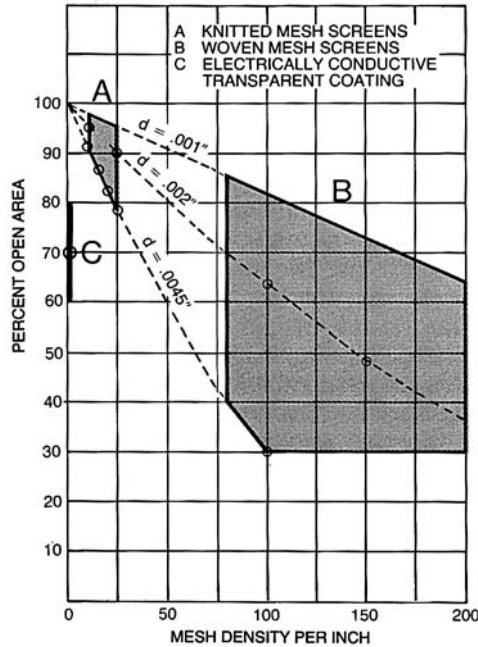

Figure 3-4. Percent Open Area of Mesh Screen.
Figure 3-4 provides a ready reference for the optical Transmission (percent open area) of the three types of shielding materials for windows covering the most commonly used knitted mesh screens, woven mesh screens and transparent conductive coatings. The commonly used materials are annotated by circle (O) on the figure.
Section A of Figure 3-4 encompasses the useful range of knitted materials. Wire diameters from 0.001 inch to 0.0045 inch bound the upper and lower limits while 10 to 25 CPI provide the limits of mesh densities. These boundaries provide the highest optical open area ranging from about 80% to greater than 95%. Bonding of wire crossovers has been assumed in all performance data shown in this guideline.
Section B of Figure 3-4 depicts the useful range of woven screen materials ranging from wire diameters of 0.001 inch to 0.0045 inch and mesh densities
Section C of Figure 3-4 (vertical coordinate) shows the normal range of transparency for the transparent conductive coating. These electrically conductive transparent coatings (ECTC) have a distinct advantage over screen materials when used with three color CRT's employing a color mask on the faceplate. The color mask is used to delineate the specific phosphor color to be displayed. The masks have a color repetition pattern or pitch that varies from an equivalent mesh density of about 60 mesh for broadcast monitors to 130 mesh for the very high-resolution monitors. Whenever a repetitive pattern, such as a shielding mesh screen, is placed in front of a color CRT, patterns of dark and light bars are known as moiré patterns. They occur as a result of the mesh screen having nearly the same pitch as the pattern of the CRT color mask. Rotating the mesh will vary the number of bars. Changing the number of wires per inch (mesh density) will also alter the number of bars. Often there is an optimum mesh density, wire size and angular relationship to the fixed CRT color mask pattern that will minimize or even eliminate the interference pattern.